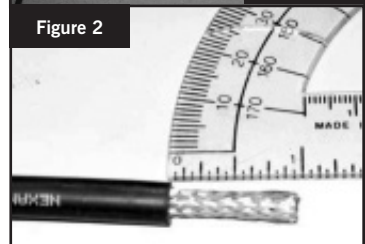

Figure 2
- Remove 1" of the cable's jacket using cable stripper. Do not cut the cable shield. (See figure 2)